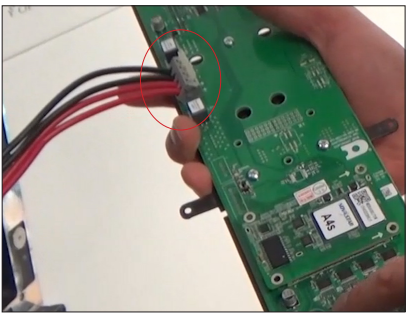

Figure 27: Disconnect Cables from Terminal Block
- Push in the positions on the spring-loaded terminal block and disconnect the cables extending from the board. Refer to **Figure 27**.